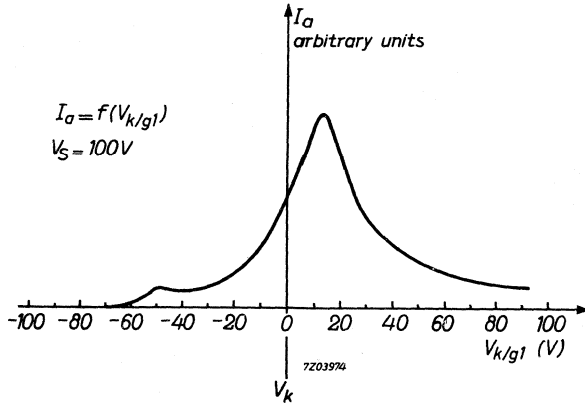

Fig.1 Anode current variation with the adjustment of g_1
voltage between k and g₁ to be adjusted at about 0.15 V_S (see fig. 1); voltage between S₁ and S₂ to be adjusted at about 0.8 V_S; decoupling capacitances C₁ = 100 q/V_S; C₂ = 100 q/3V_S, C₃ = 100 q/9V_S, C₄ = 100 q/27V_S etc. with q = quantity of electricity transported by the anode.
- a. the most satisfactory collection (i.e. for a given luminous flux the largest obtainable anode signal); for this adjustment, see Fig.1 the optimum value of the potential is about $0.15 V_S$;